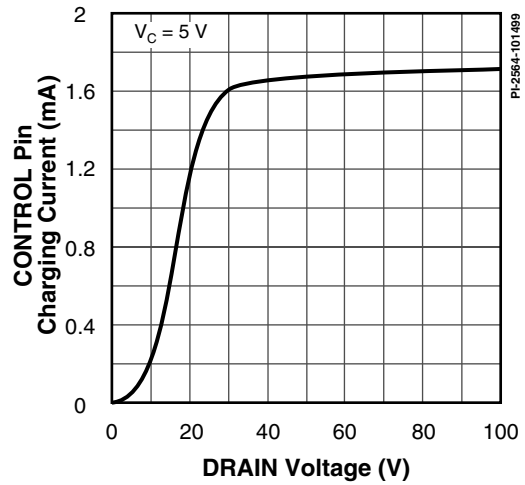

Figure 68. I_C vs. DRAIN Voltage.
- E. It is possible to start up and operate *TOPSwitch-GX* at DRAIN voltages well below 36 V. However, the CONTROL pin charging current is reduced, which affects start-up time, auto-restart frequency, and auto-restart duty cycle. Refer to Figure 68, the characteristic graph on CONTROL pin charge current (I_C) vs. DRAIN voltage for low voltage operation characteristics.